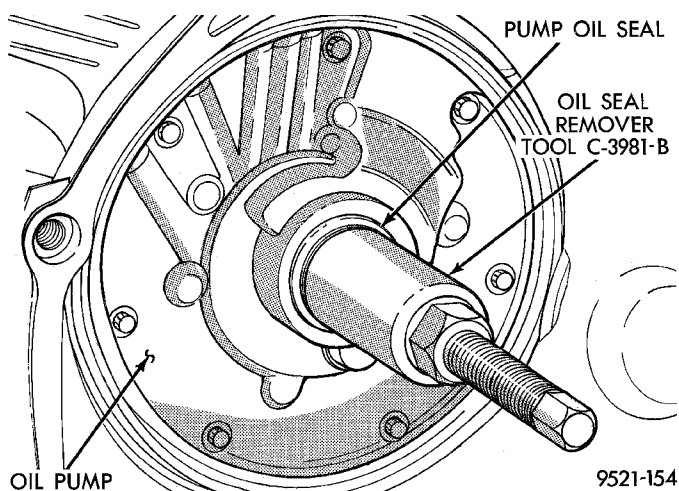

Fig. 44 Remove Pump Oil Seal
- (1) Screw seal remover Tool C-3981-B into seal (Fig. 44), then tighten screw portion of tool to withdraw the seal.